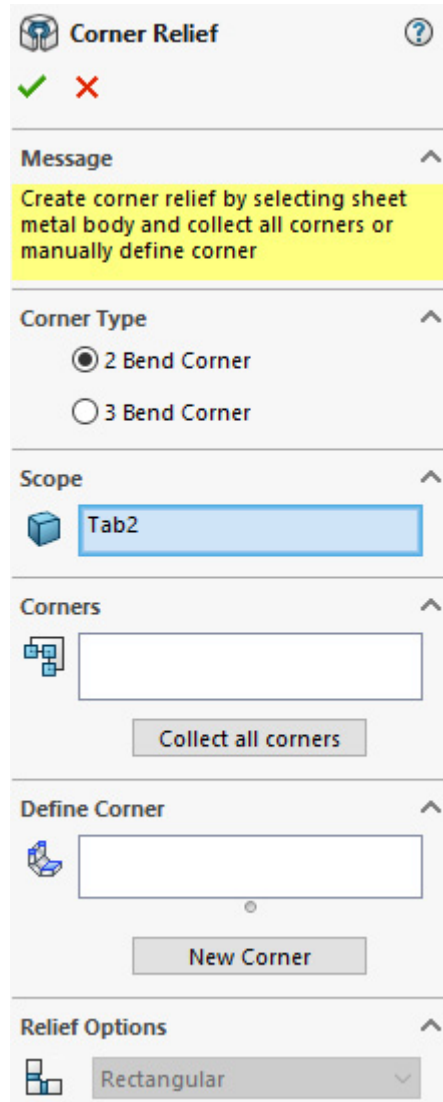

Figure 9.14: Corner Relief Property Manager
2. Select the **Corner Relief** tool from the drop-down menu underneath the **Corner** tools. We can now set some options in the Property Manager (*Figure 9.14*):